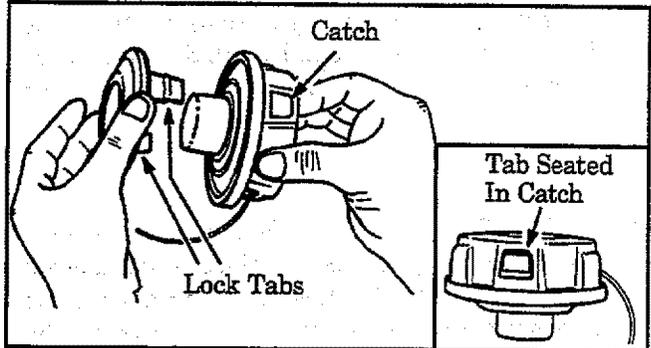

Figure 19
- h. Align the Lock Tabs on the Cover over the Catches on the Hub. Push the Cover down onto the Hub until the parts snap together. Figure 19.
- i. Check to make sure the Lock Tabs are properly fastened as shown in Figure 19 (inset).